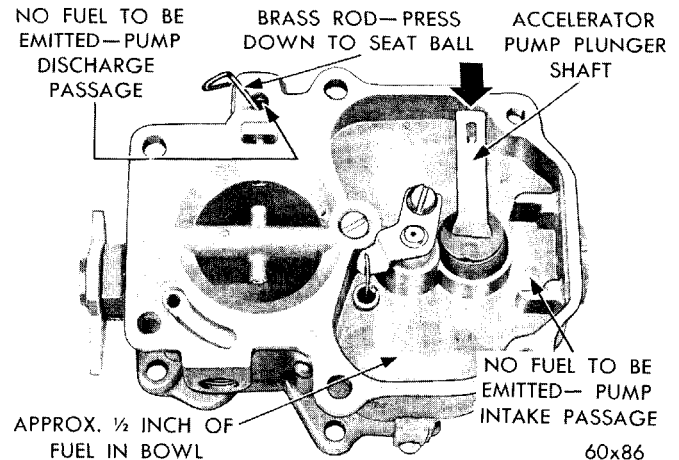

Fig. 12 — Testing Accelerator Pump Intake and Discharge Check Balls
(9) Pour clean gasoline into the carburetor bowl, approximately $\frac{1}{2}$ inch deep. Remove the pump plunger from the jar of gasoline and slide down into the pump cylinder. Raise the plunger and press lightly on the plunger shaft to expel air from the pump passage.
(10) Using a small clean brass rod, hold the discharge check ball down firmly on its seat. Again raise the plunger and press downward. No fuel should be emitted from either the intake or discharge passage, as shown in Figure 12.